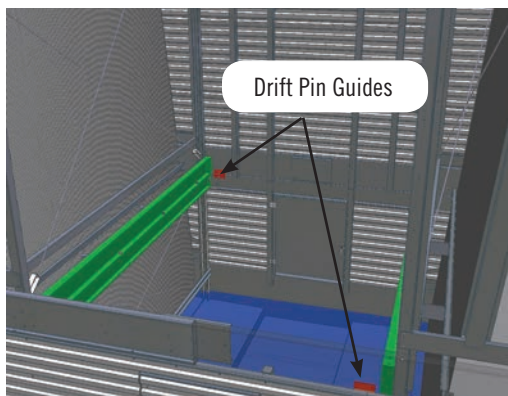

Figure 6. Upper and Lower Assembly - Drift Pin Guides
- Bolt the top sections onto the bottom sections as shown in **Figure 4** on **page 5** using the bolting channels in **Figure 6**.